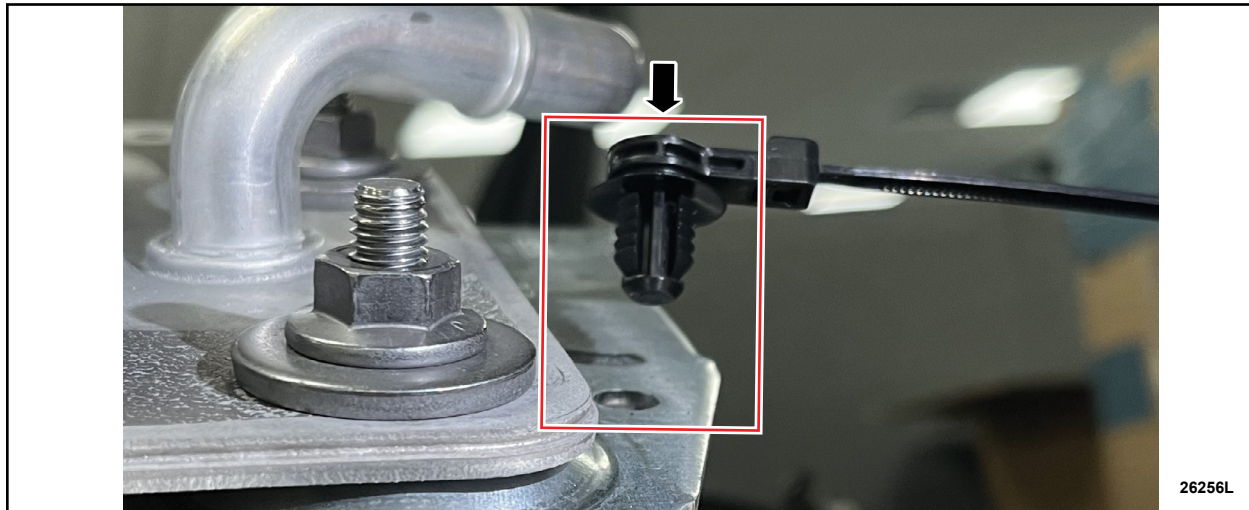

FIGURE 4
- The push-pin on the push-pin retainer is NOT installed (fully unseated) to the transmission fluid heat exchanger bracket. See Figure 4 - Proceed to Step 4.